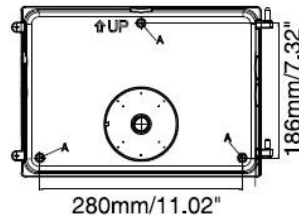
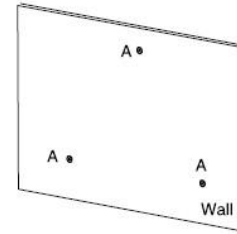

Fig2
Fig3
Step 2. **Method A:** Drill holes at the three "A" mounting points on the rear housing (Fig2), and drill holes on the wall as per the hole locations on the rear housing (Fig3).